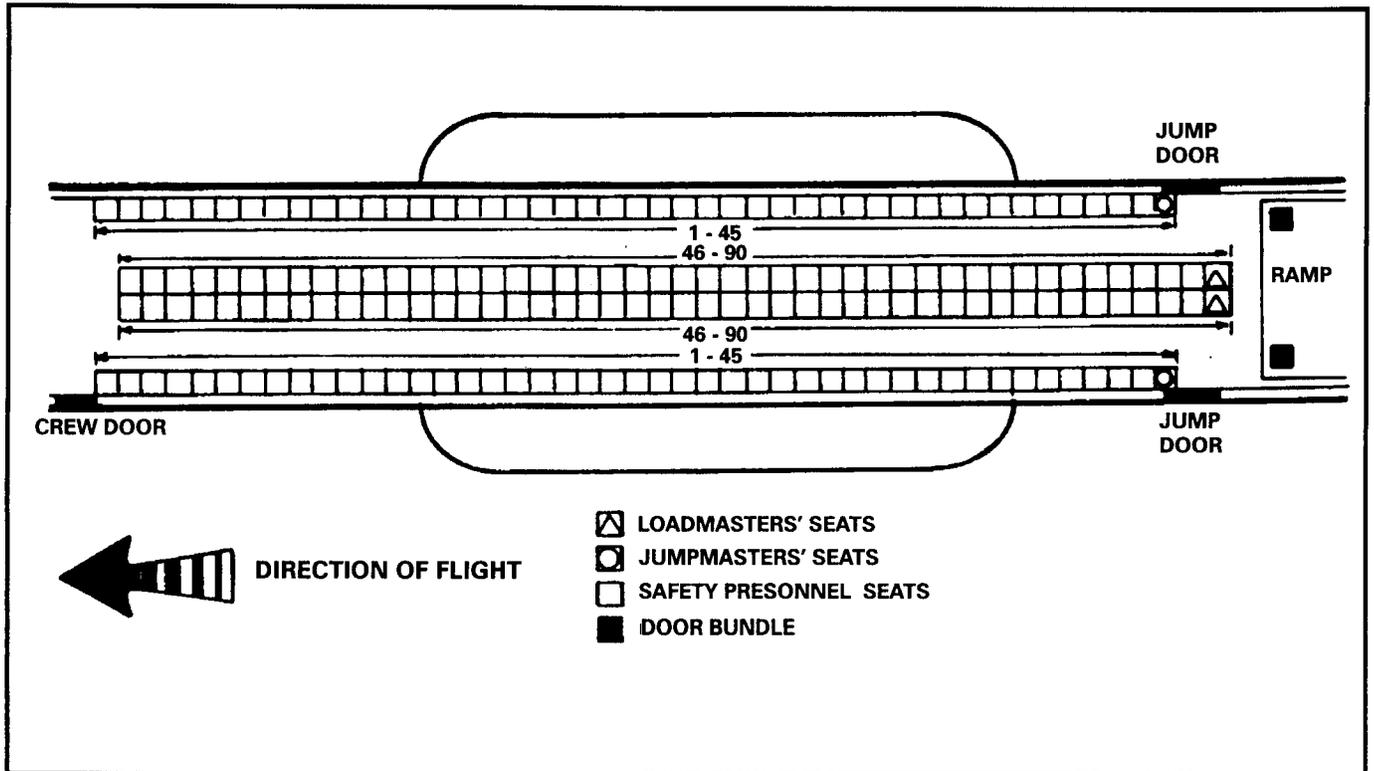

Figure 16-11. C-141B configured for combat load (182 seats).
In this configuration, the C-141B seats 182 personnel: 180 parachutists and 2 loadmasters (Figure 16-11). Personnel are seated on the side-facing seats on 20-inch centers. Parachutists (180) are seated in two sticks of 90 each on the left and right sides. If 45 parachutists cannot be seated on the outboard seats, the overflow may be seated inboard aft on available center seats. The JM must ensure that only 45 parachutists hookup to the outboard/inboard anchor cables.